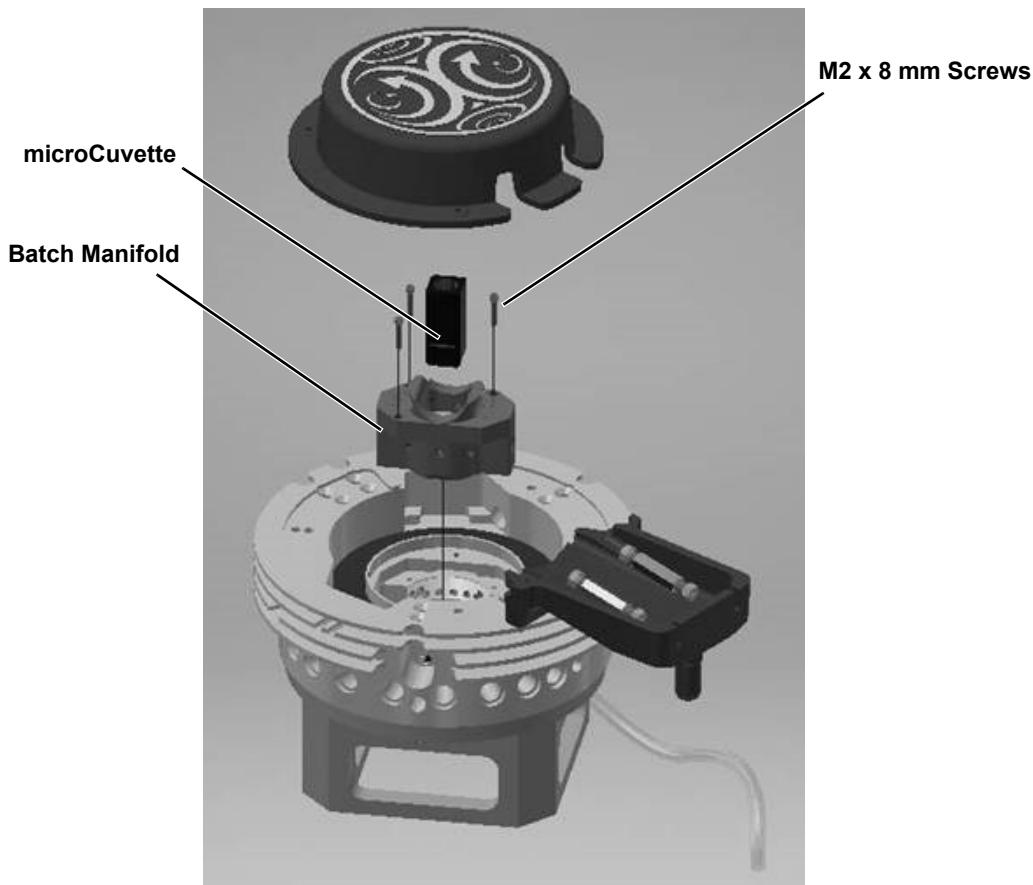

Figure 7-3: DAWN microCuvette Kit assembly
- See Figure 7-3 for an exploded view